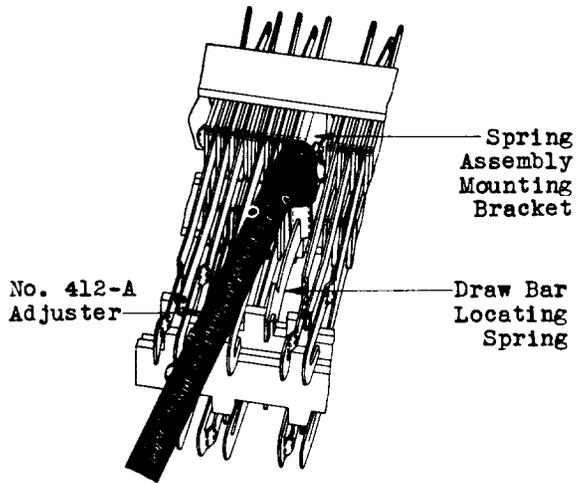

Fig. 11 - Method of Tensioning Draw Bar Locating Spring
(1) Draw Bar Locating Spring Tension If the draw bar locating springs do not have sufficient tension away from the lever end of the switch to keep them against the draw bar shoulders, thereby insuring that the draw bar will be held in position, increase the tension of the springs using the No. 412-A spring adjuster. Place the adjuster on the spring directly in back of the pronged section and slide it back to a point approximately 1/4" from the spring assembly bracket as shown in Fig. 11 and then adjust the spring slightly away from the lever.